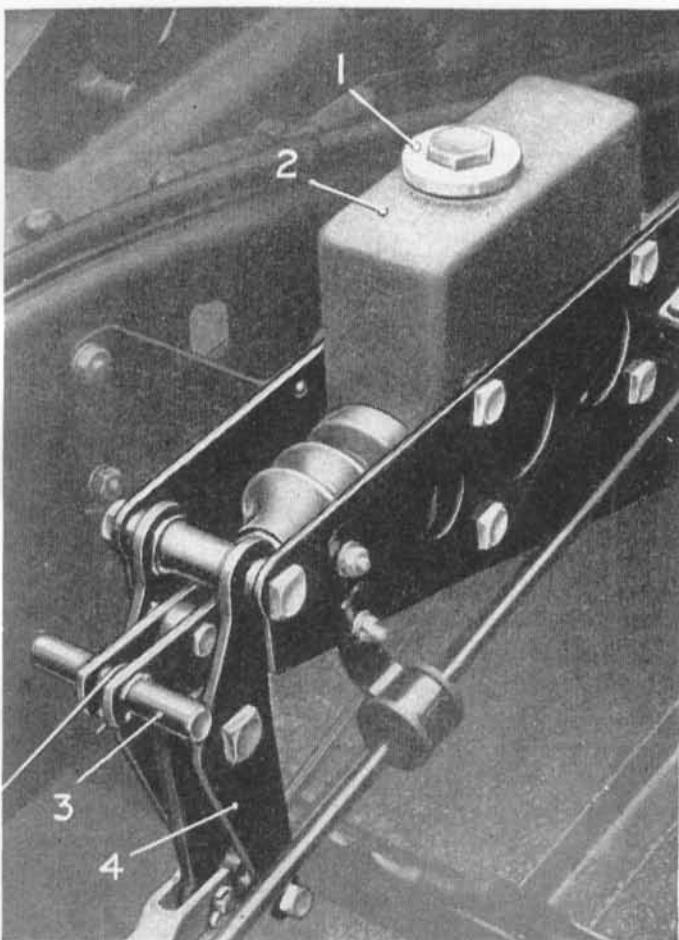

Fig. 20.—THE HYDRAULIC MASTER CYLINDER AND RESERVOIR.
2. Release the bleeder screw (3) half to one turn.
3. Remove the filler plug (1, Fig. 20) and fill the reservoir integral with the master cylinder, with the recommended fluid. (See page 30.)
4. Push the joint forward until the extended pin (3) abuts against the master cylinder support brackets (4).